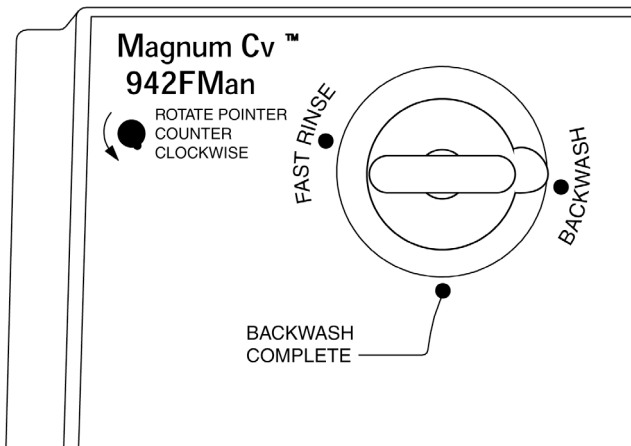

Figure 5.6
1. Move the indicator knob **COUNTERCLOCKWISE** from the **Backwash Complete** position to the center of the **Backwash** (Figure 5.6) position. **DO NOT** turn the knob clockwise. The knob should remain in the **Backwash** position for 5 to 20 minutes*, or until the water runs clear at the drain.